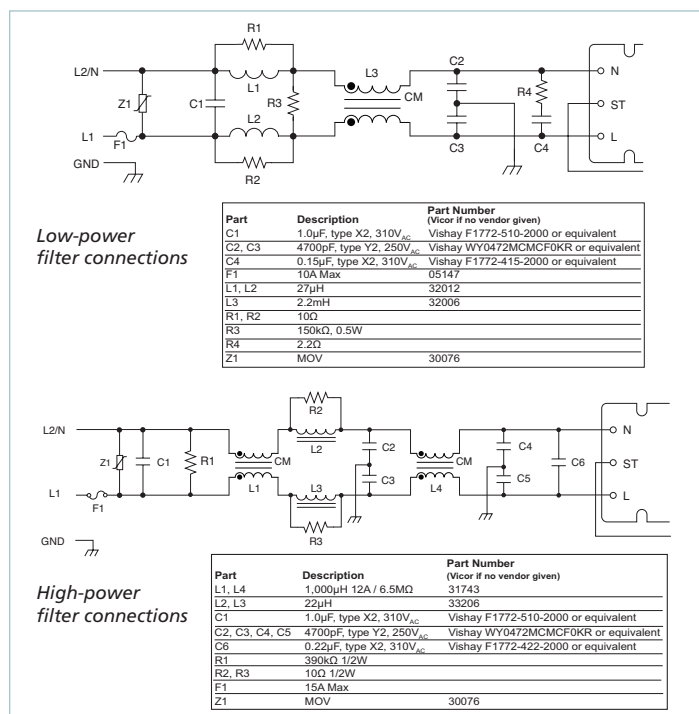

Figure 13 — Filter connections
**Filter:** Two input filter recommendations are shown for low-power VI-ARM-x1 and high-power VI-ARMB-x2 (see Figure 13). Both filter configurations provide sufficient common mode and differential mode insertion loss in the frequency range between 100kHz and 30MHz to comply with the Level B conducted emissions limit.